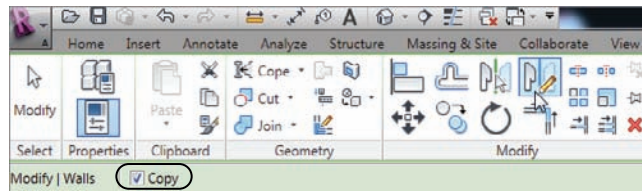

FIGURE 1.25 There are options you must choose for every command in Revit.
4. Make sure the Copy check box is selected (see Figure 1.25).